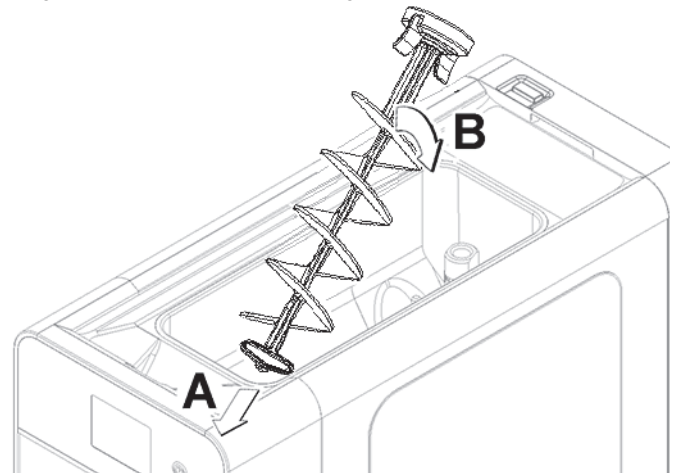

figure 27
- 6 Assemble the hopper auger taking care to insert the ends in the grooves in the hopper.(see figure 27)